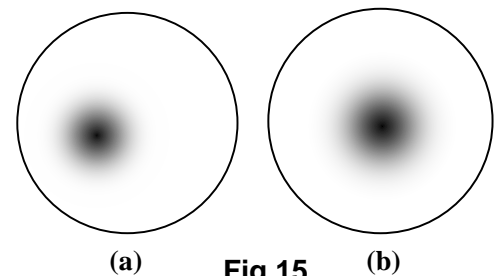

Fig.15
- Turn the condenser focus knob to slowly lower and raise the condenser till a dark spot showed in the viewing field as shown in **Fig. 15 (a)**.
- Turn the condenser translational centering screws to move the dark spot to the center as shown in **Fig. 15 (b)**.